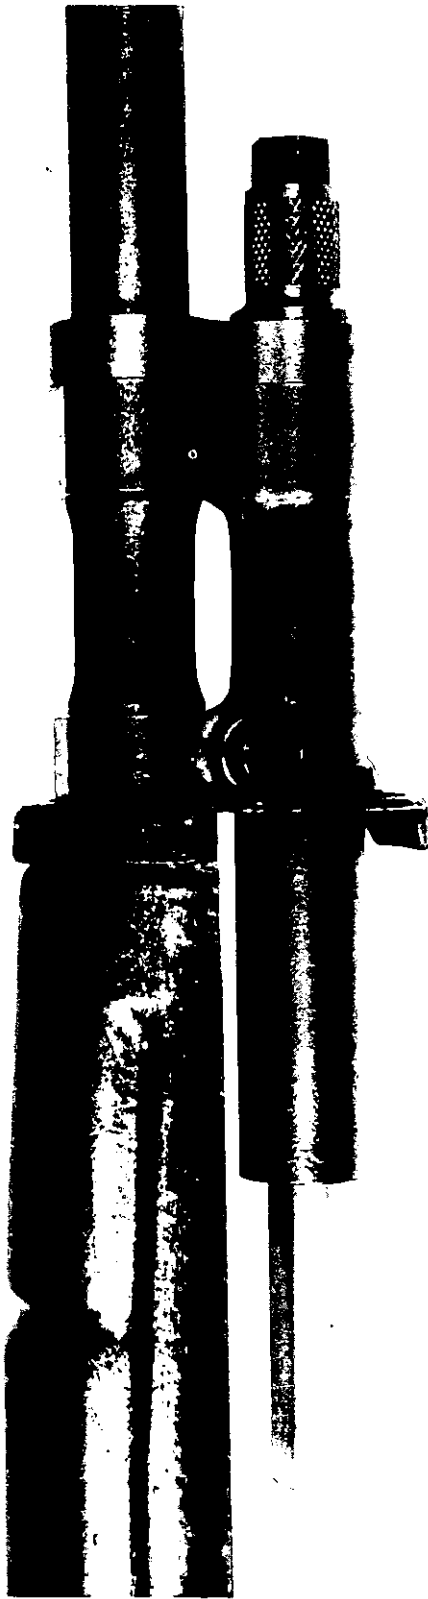

Figure 19. Gas piston properly seated.
b. Gas System. Slide the gas cylinder rearward through the front band. Tighten the gas cylinder lock by hand to its fully assembled position, then back it off until the loop is aligned with the gas cylinder. Replace the gas piston with the flat part toward the barrel and the open end toward the muzzle. When the gas piston is properly seated, it will protrude one and one-half inches below the gas cylinder (fig. 19). Replace the gas cylinder plug and tighten it securely with the wrench of the combination tool.